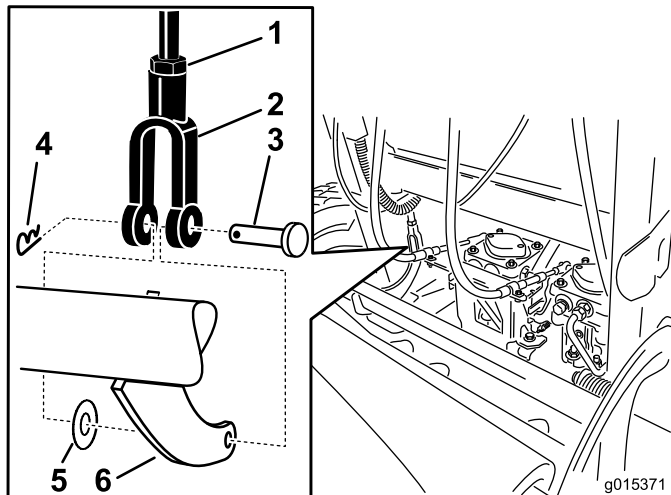

Figure 66
5. To adjust the brake, remove the hairpin cotter and clevis pin from the lower brake lever and yoke (Figure 66).
6. Loosen the jam nut (Figure 66).
7. Rotate the yoke (Figure 66).
8. Secure the yoke to the lower brake lever with the hairpin cotter and clevis pin (Figure 66).
9. Tighten the jam nut (Figure 66).